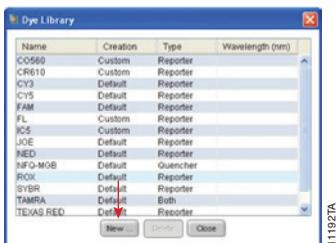

Figure 6. Select “New” in the Dye Library dialog box.
- In the “Dye Library” dialog box that appears select the “New” button (Figure 6).